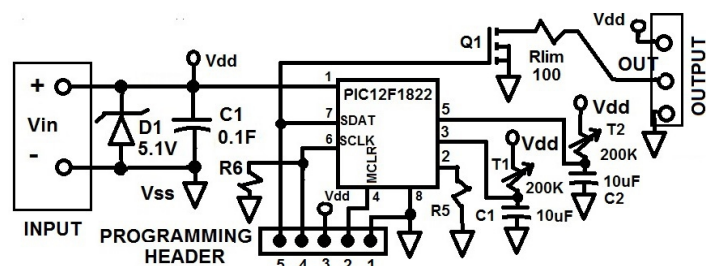

Figure 1 – Electrical Schematic
Thermoelectric (TE) phenomena arise from the intercoupled electrical and thermal currents in a material. A thermoelectric generator is constructed by connecting multiple n-type and p-type thermoelements in electrical series with all elements in thermal parallel between a heat source and a heat sink. The open circuit (unloaded) voltage that is produced will be proportional to the temperature gradient across the device. When the gradient is relatively small, the magnitude of the generated voltage will be small, in many applications, too small to power practical sensors and actuators. In these cases, a voltage boost circuit may be used, such as the VBXXXX family of voltage boost devices from TXL Group which can convert power at input voltages as low as 40 mV to more usable levels such as 3.3 or 5.0 volts. The ACC-01 can accumulate energy at the higher voltage and release it according to a programmed schedule. A circuit schematic of the ACC-01 is shown in Figure 1.